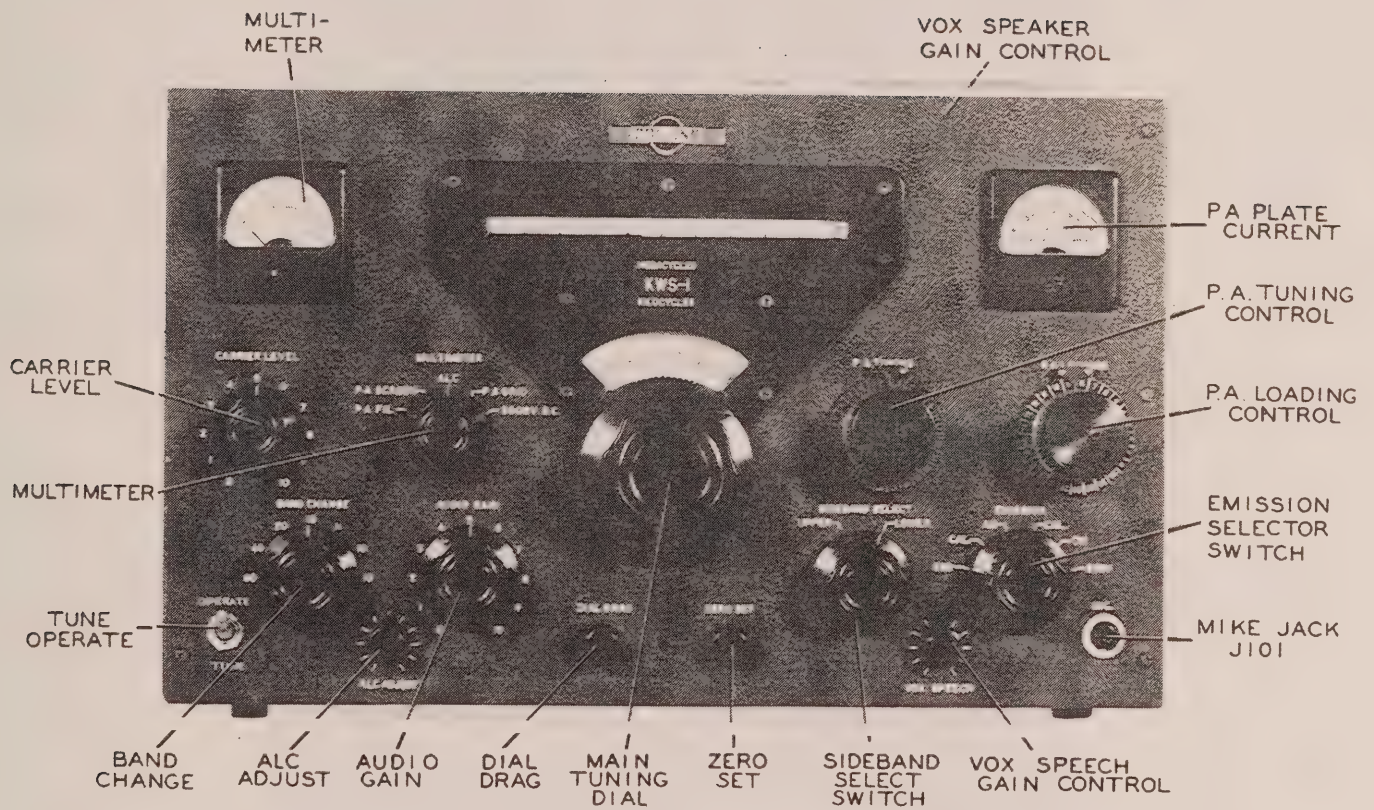

Figure 3-1. Exciter Front Panel
a. Plug microphone into the MIC jack (J101) located at lower right-hand corner of front panel. (See figure 3-1.)